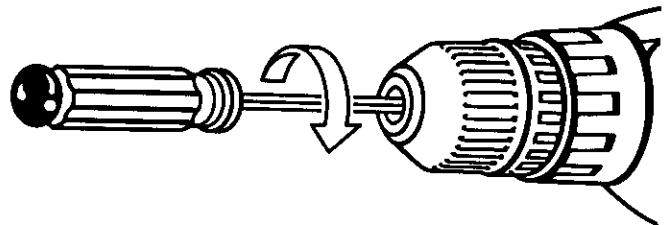

Fig. 10
- Open chuck jaws and remove allen wrench. Remove the chuck screw by turning it in a clockwise direction. See Figure 10.